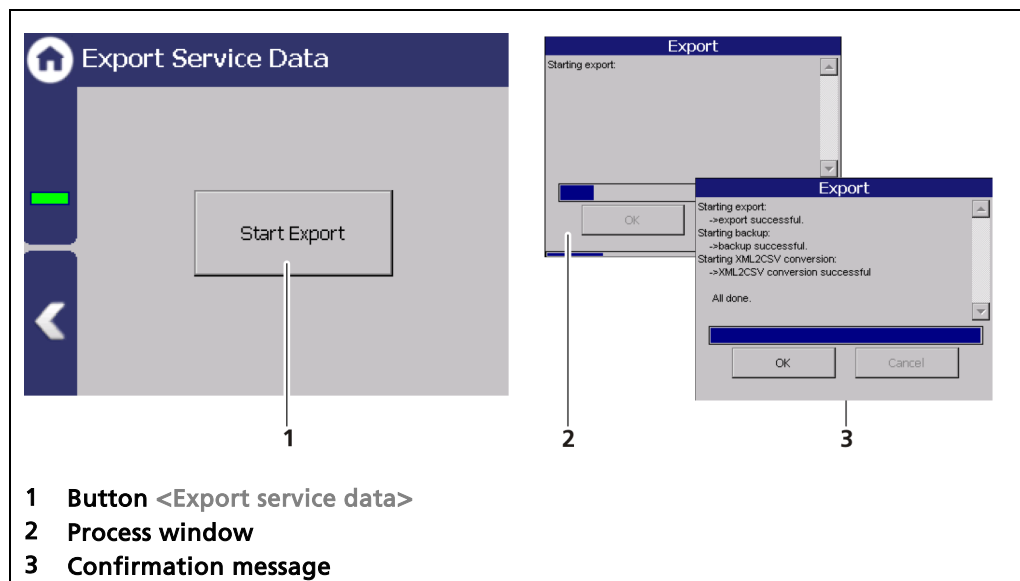

Fig. 145 Export Service Data
1. Click on the entry field "Logging interval" (Fig. 145, item 3) and enter an interval.
2. Start the network data log (Fig. 145, item 1).
6. The USB storage is recognised by the system after a few seconds and the button <Export service data> (Fig. 145, item 1) can be clicked.
7. Click on the button <Export service data> (Fig. 145, item 1).
- ▶ The process window is displayed and the export of service data will be carried out (Fig. 145, item 2).
- ▶ After successful export a confirmation message Fig. 145, item 3) is displayed.